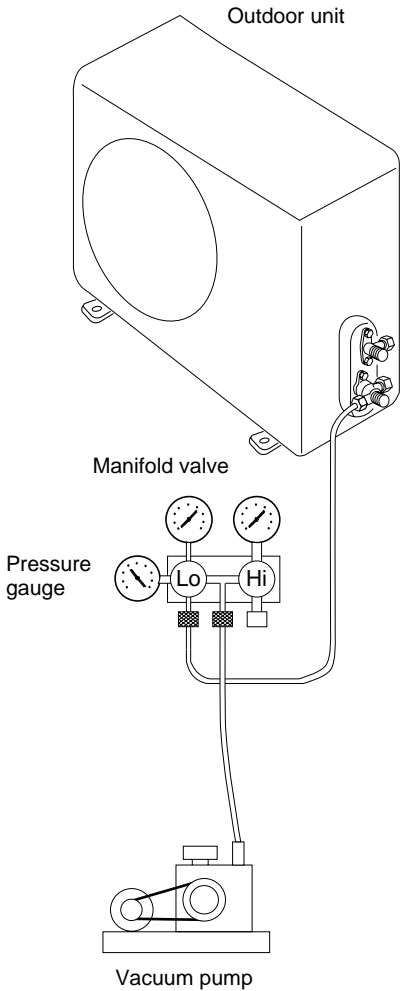

Fig. 2
- 13-4-5.** Turn the disconnect switch ON (if it has been OFF) to open the 2 solenoid valves (SV1 and SV2). (Fig. 2)